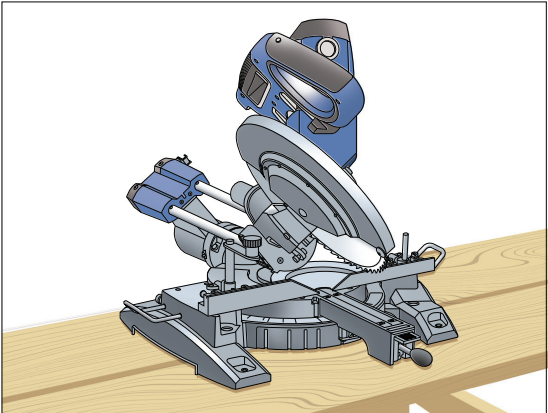

Figure 7d. Compound miter saw.
- A compound miter saw (Fig. 7d) will be needed to cut mitered corners on Hardie® Artisan lap siding